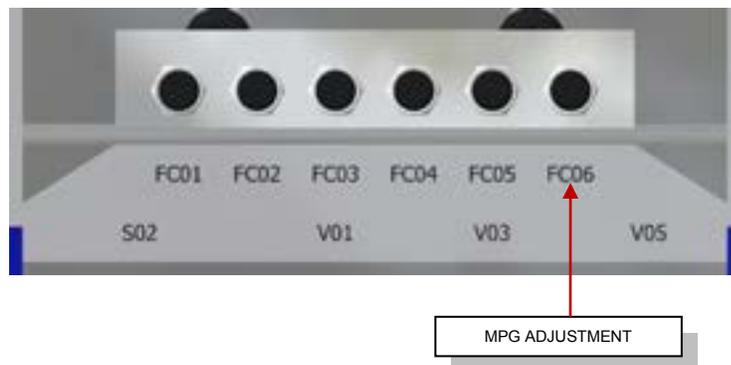

Fig. 16
**MPG Adjustment:** (see figure 16)